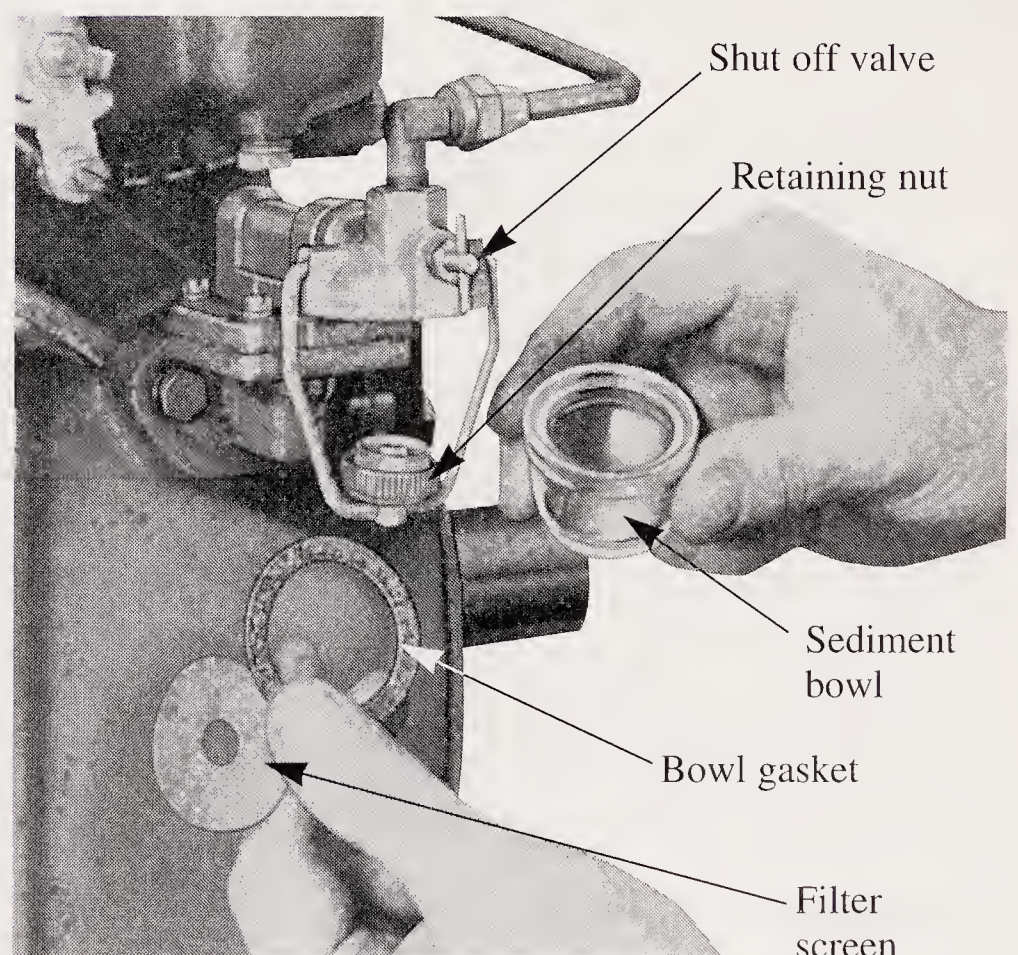

Figure 13-1. Disassembled sediment bowl includes fuel bowl, strainer, and gasket. If water was present, it would settle to the bottom of the bowl.
- Pump filter is clean and gasket on the filter bowl is in good condition. The method of inspecting the filter and gasket is shown in **Figure 13-1**. Water and contaminants in the fuel are easy to see. Water, being heavier than fuel, separates and collects at the bottom of the bowl, along with other contaminants such as dirt and rust. Generally, visual inspection can be made without dismantling the pump. If disassembly is required, consult an exploded view of the pump. See **Figure 13-2**.